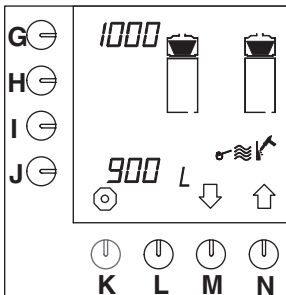

Fig. 26 Descaling counter coffee-making system
- The descaling counter appears on the display (fig.26).